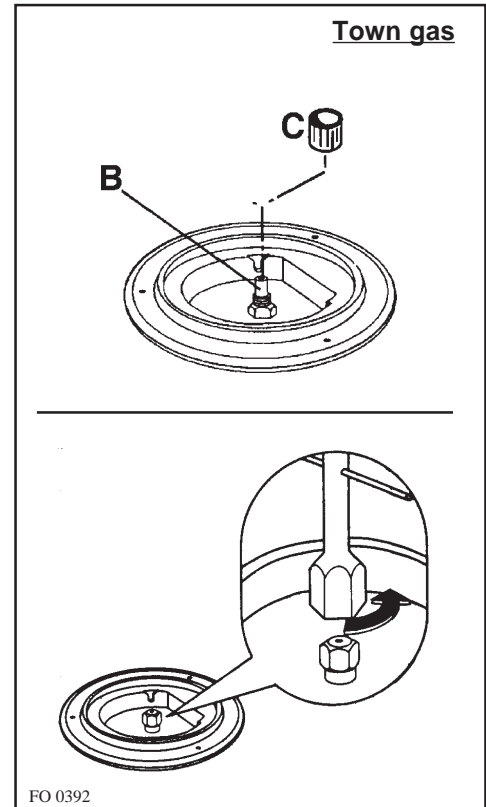

Fig. 6
3. With a socket spanner 7 unscrew and remove the injectors (Fig. 6), and replace them with the ones required for the type of gas in use (see **Table 2**).